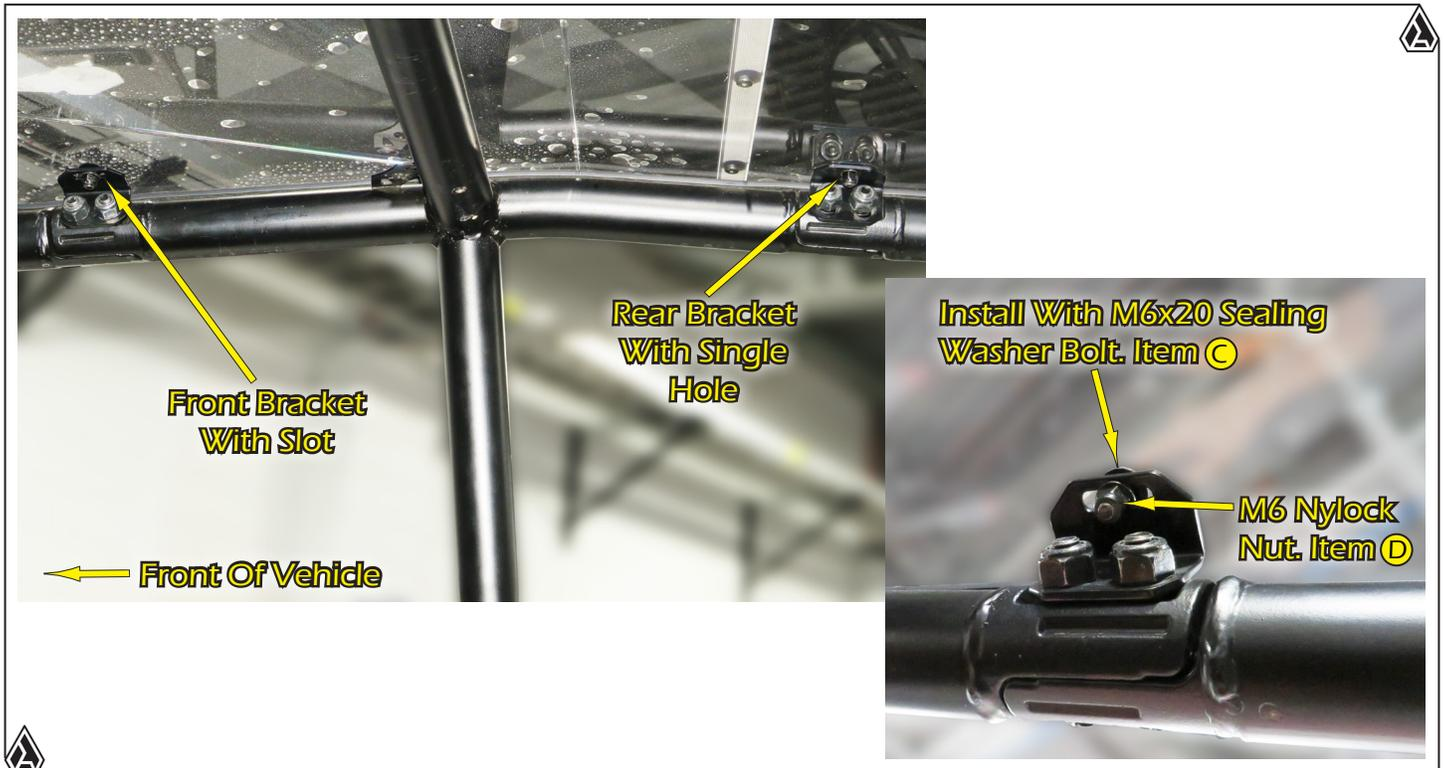

FIG.17
19. Fig.17 shows one of each of the mounting brackets, one with the slot towards the front, and one with a single hole towards the rear, looking at them from the inside, passenger's Side. After attaching the brackets to the frame, now install the roof to the brackets using the M6x20 Bolt with Sealing Washer, item "C", and M6 Nylock Nut, item "D" provided in your kit, also shown in Fig.17.